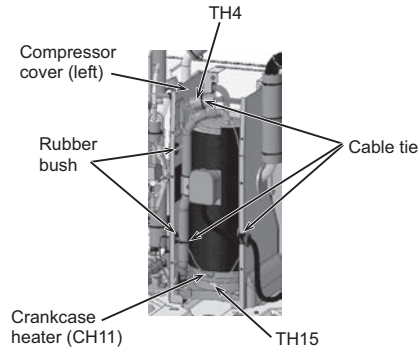

Figure 3
- (3) Cut the three tie bands holding TH4, TH15 and Crankcase heater (CH11), and remove the wiring from the rubber bush on the left compressor cover. (See Figure 3.)